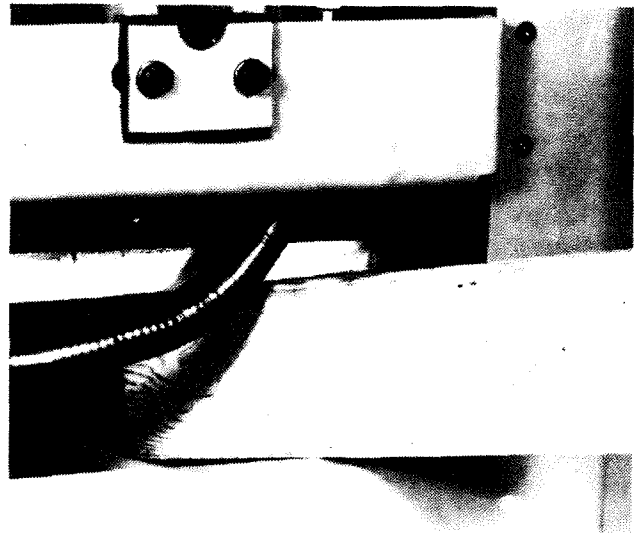

Figure 4.9 - Motor Plate Blocked in Position
12. Block the motor mounting plate in this position, as shown in Figure 4.9 .